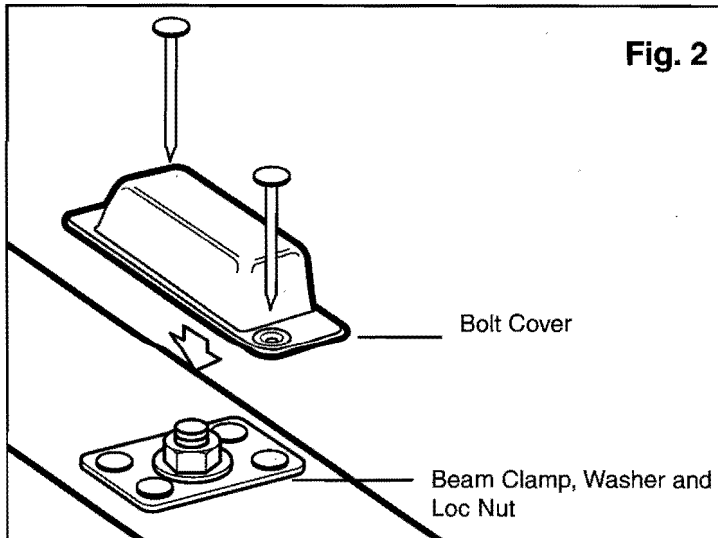
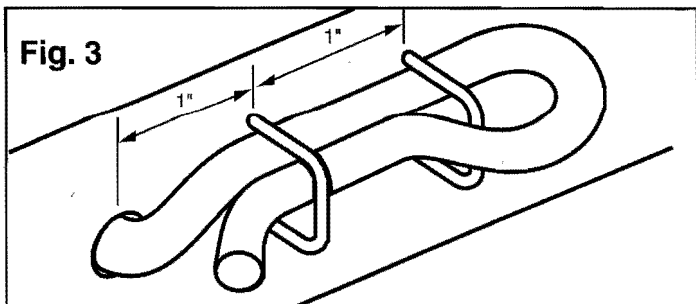

Fig. 2
Fig. 3
3. Remove existing carriage bolt from the bracket and replace with the first Cargo Net eye bolt. Insert remaining eye bolts through the beam and secure all of them using a beam clamp, washer and loc nut (see Fig. 2).
4. Place two rope staples as indicated in Fig. 3. Thread the Cargo Net through the holes of the base and loop through the staples as shown (Fig. 3). Pull tight and secure by pounding staples tight against the base.
5. Place bolt covers over the bolts as indicated in Fig. 2. Secure bolt covers using 2" screws.
5. Drill four 5/16" holes in the top board and four 3/8" holes in the bottom board as indicated in Fig. 2. **NOTE:** Drill through the bottom of the 2" x 4" board to the top. Insert the eye bolts of the Cargo Net through the holes of the top board and secure all of them using a beam clamp, washer and loc nut (see Fig. 3).
6. Place bolt covers over the bolts as indicated in Fig. 3. Secure bolt covers using 2" screws.